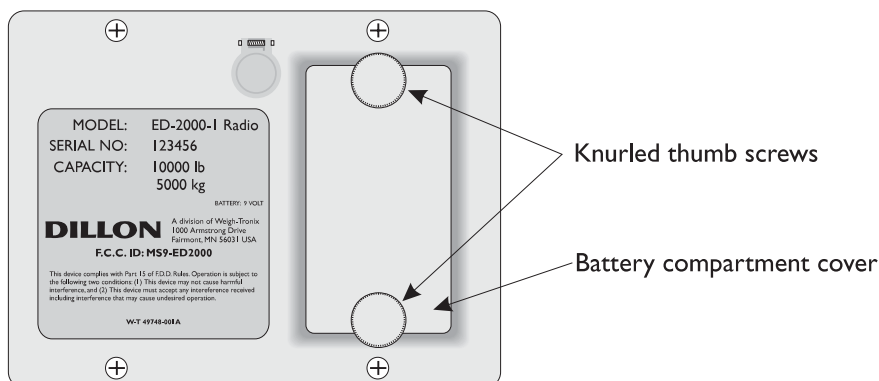

Figure 6
1. Remove the two knurled thumb screws from the battery compartment cover. (Be careful not to lose these screws.) See Figure 6.